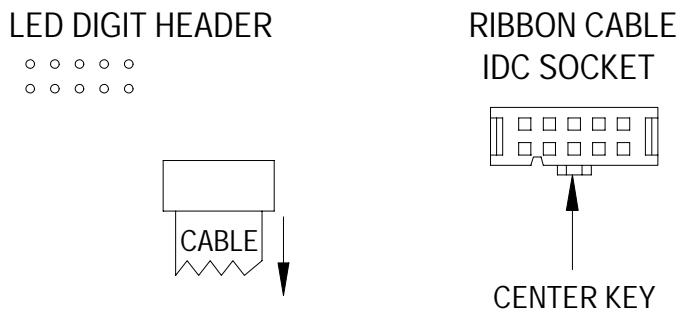

Figure 7 LED Digit Ribbon Cable Connection Diagram
6. Plug the ribbon cable onto the header on the back of the circuit board. Refer to figure 7 in order to plug the ribbon cable IDC connector onto the circuit board in the proper orientation.